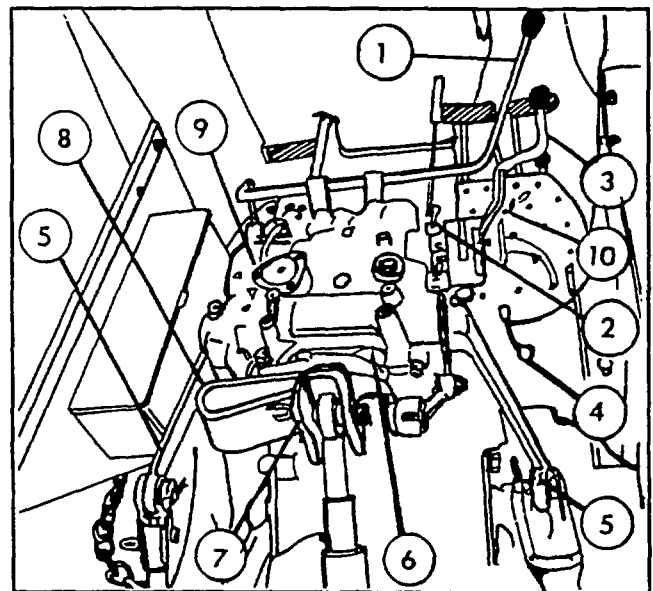

Fig. 20 - Hydraulic Controls
CAUTION: Adjust lifter response sensitivity by suitably setting lever (item 3 -fig. 20 - 23). Obtain maximum possible sensitivity without causing implement jolting or operator discomfort.